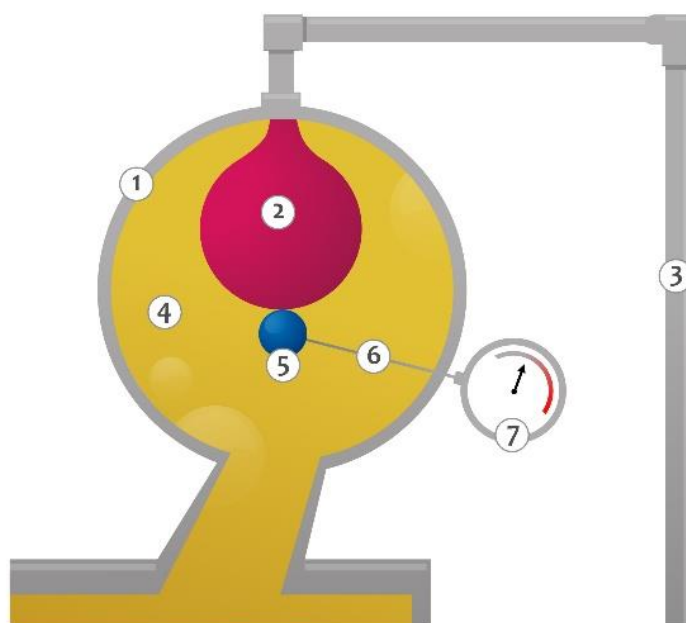

Figure 2 - Bag sealing system
A second sealing system is shown in Figure 2 using a rubber bag instead of a membrane. This figure shows the expansion tank (1), the rubber bag (2) is installed inside, which has its upper opening connected to the air tubing (3), in order to avoid oil contact (4) with the atmospheric air. As the oil level (6) rises and falls, the rubber bag (2) collapses or extends. At the bottom of the rubber bag (2) there is a float (5) which is coupled via a rod (6) to an oil level indicator (7).